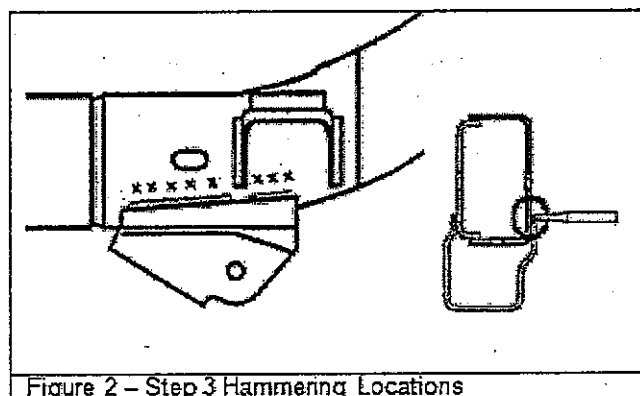

Figure 2 - Step 3 Hammering Locations
3. Using a 3/16 flat punch and a 12-16 oz. hammer, hammer on the locations identified with an "X" in Figure 2. Swing the hammer 10 to 12 inches to be sure enough force is applied to the punch. If no hole is created, apply Noxudol 700 and Noxudol 300 (Go to "Condition Two: Apply Noxudol 700 and Noxudol 300" in this bulletin). If, however, the flat punch creates a hole in any one location, go to the next step.